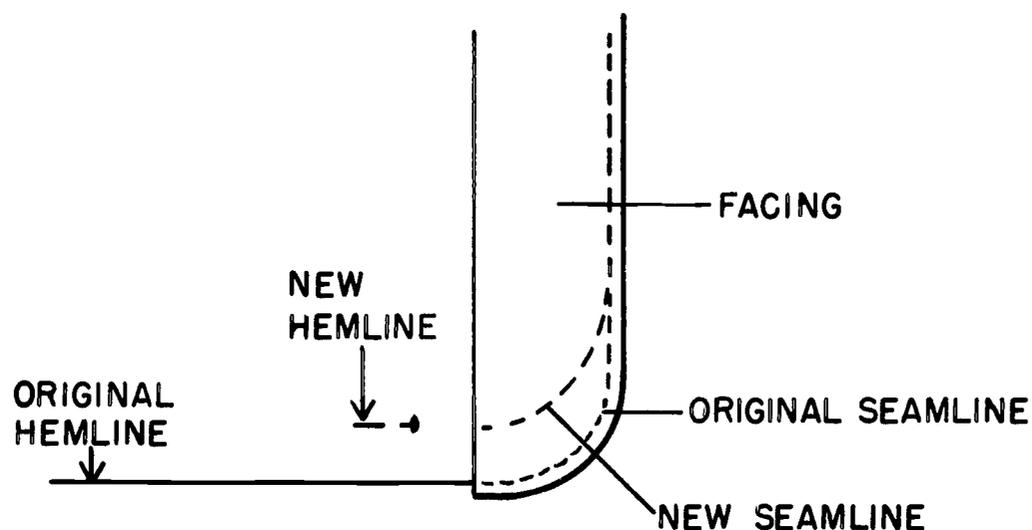

Figure 48.
- Stitch around the curve of the coat front with stitches ending at the edge of the facing and joining the stitches at the original seamline along the front of the coat (see Figure 48).